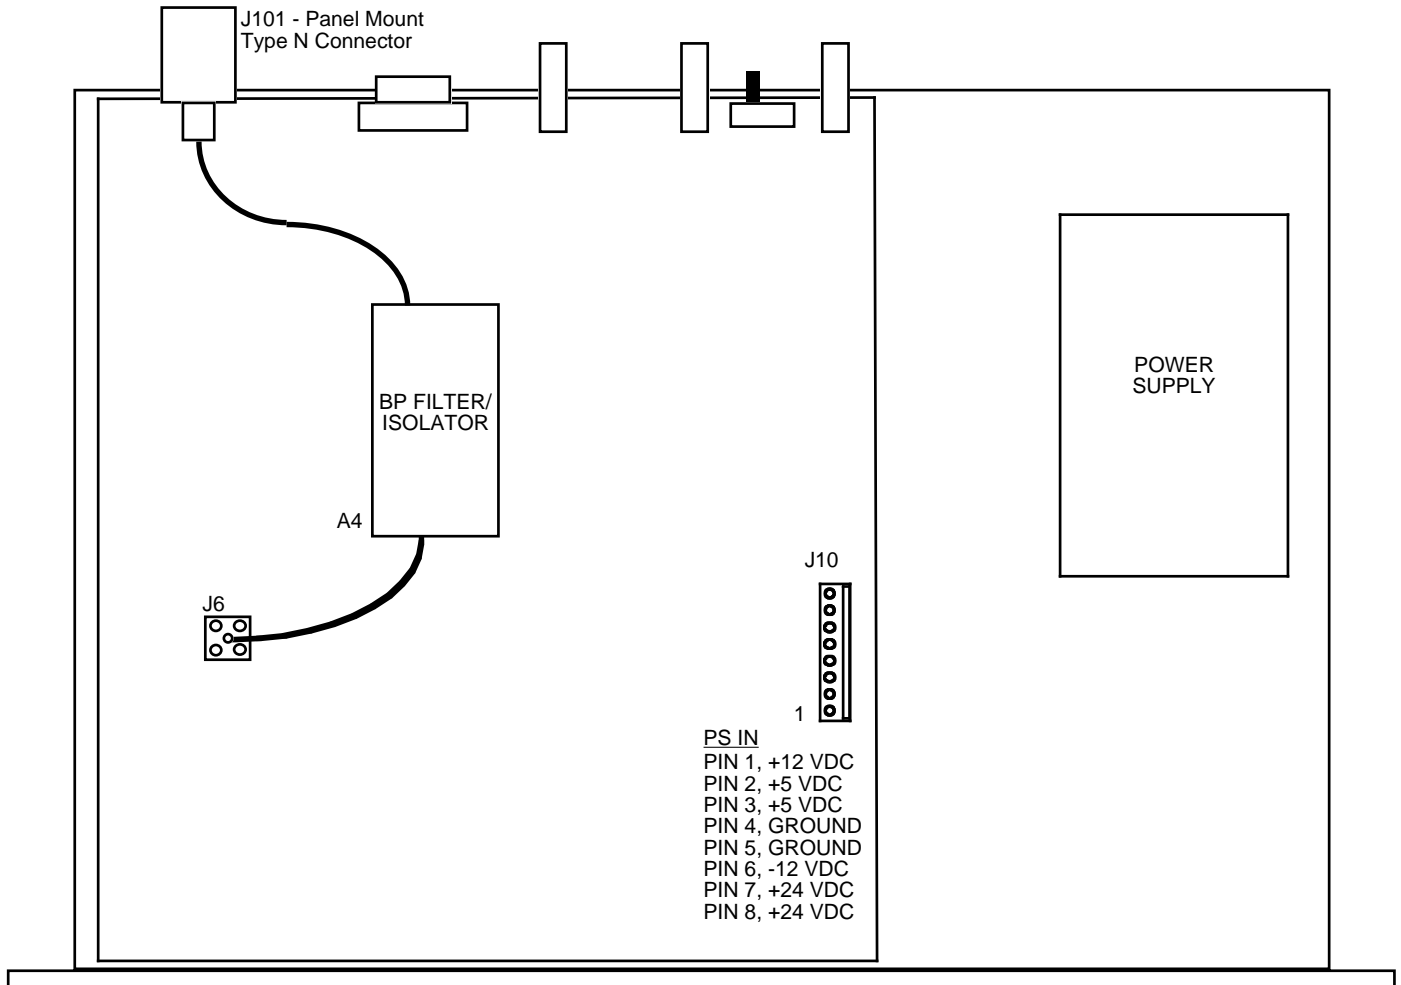

FIGURE 2.0 3116-80-2050 Mechanical Assembly
2.1 Mechanical - The 3116-80-2050 consists of one RF PCB housed in a 1 RU (1 3/4 inch high) by 14 inch deep chassis. A switching, ± 12 , +24, +5 VDC power supply provides power for the assemblies. The 3116-80-2050 can be secured to a rack using the 4 holes on the front panel. Figure 2.0 shows how the 3116-80-2050 is assembled.